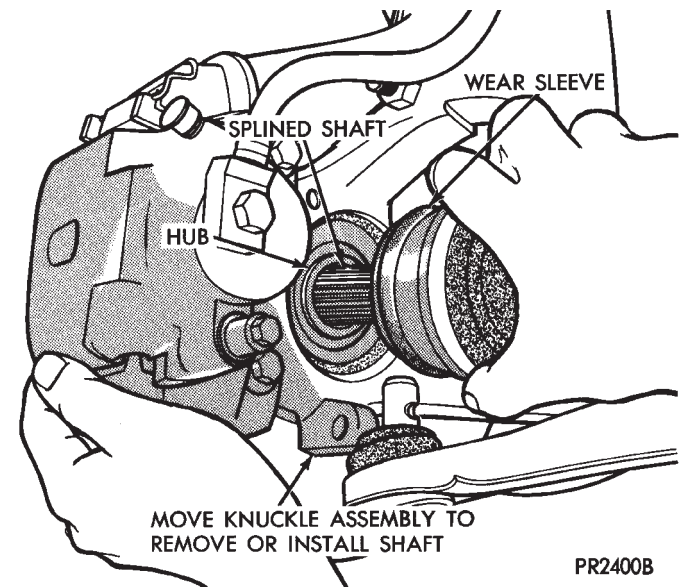

Fig. 11 Install Outer Shaft into Hub
(2) Push knuckle (hub) assembly out and install splined outer C/V joint shaft in hub (Fig. 11).